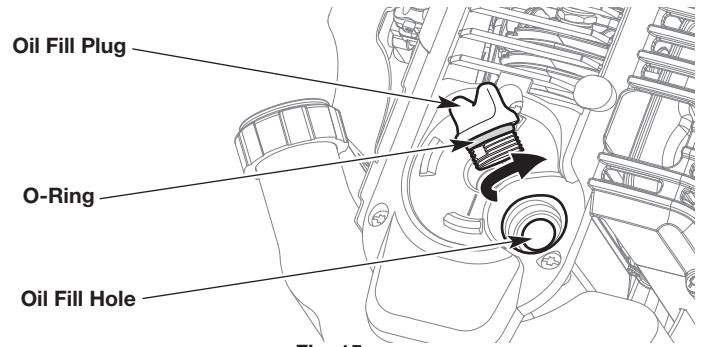

Fig. 15
3. Clean the area around the oil fill plug (Fig. 15) to prevent debris from entering the oil fill hole (Fig. 15).
7. Make sure the O-ring is in place on the oil fill plug (Fig. 15).
1. Clean the area around the oil fill plug (Fig. 15) to prevent debris from entering the oil fill hole.